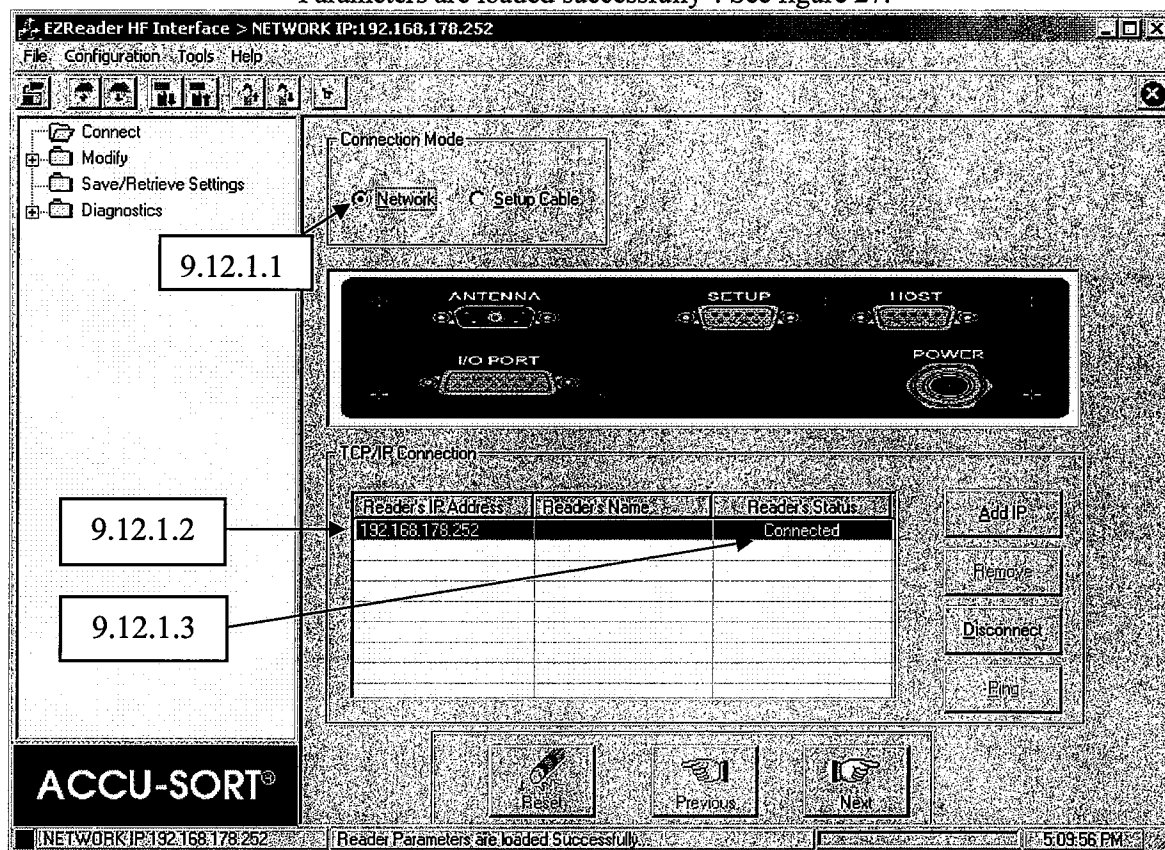

Figure 27
- 9.12.1.3 Click the Connect button, DUT status should show connected and the status message at the bottom of the screen should state "Reader Parameters are loaded successfully". See figure 27.